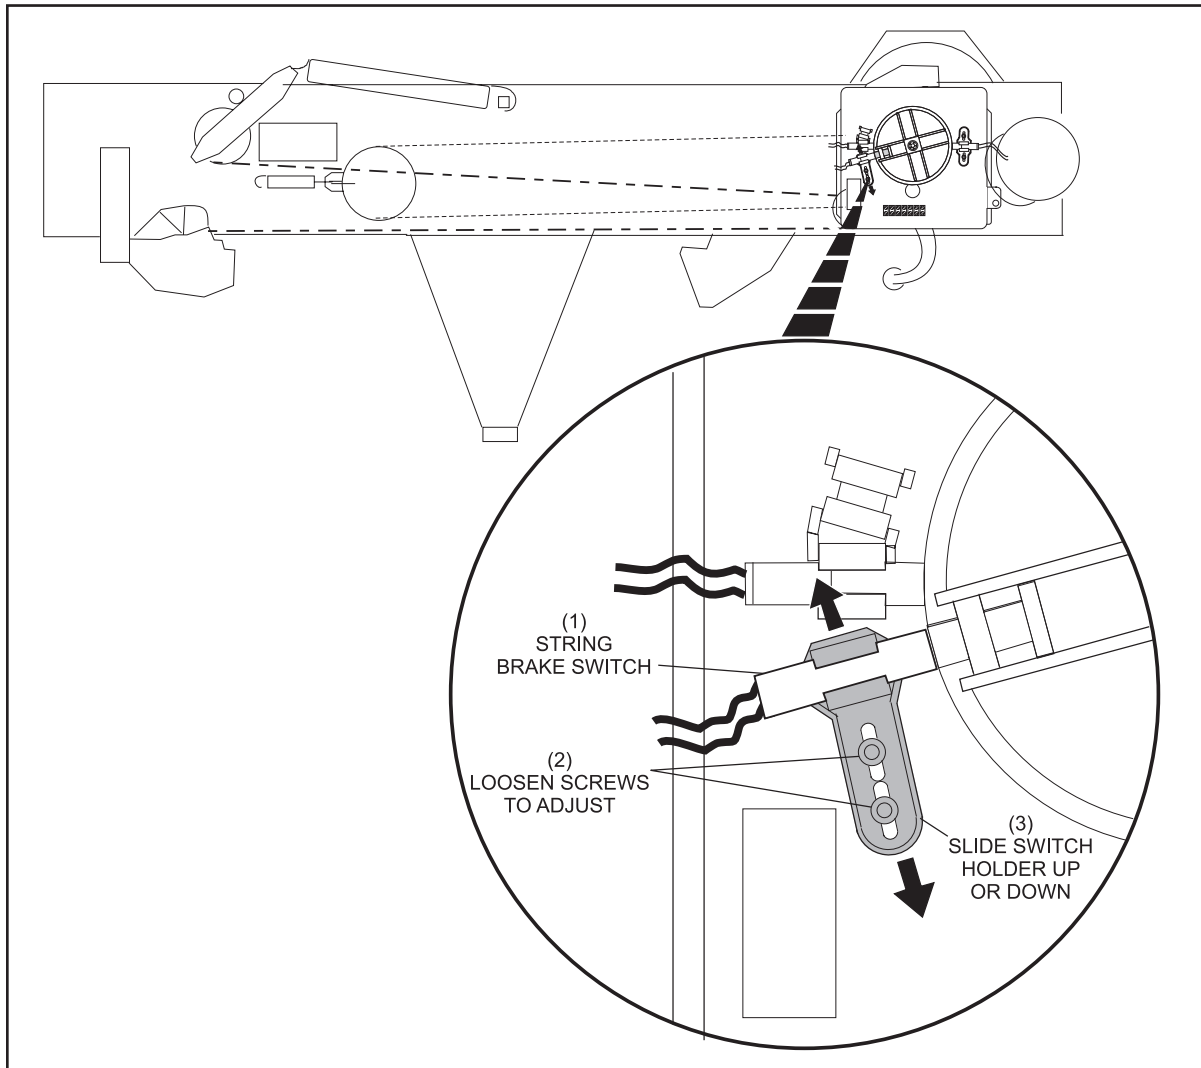

Figure 4-7. Adjust Brake Switch
(2) CENTERING CONE
4. Adjust the String Brake switch up or down, as needed, to obtain the appropriate pin movement. Refer to *Figure 4-7*.